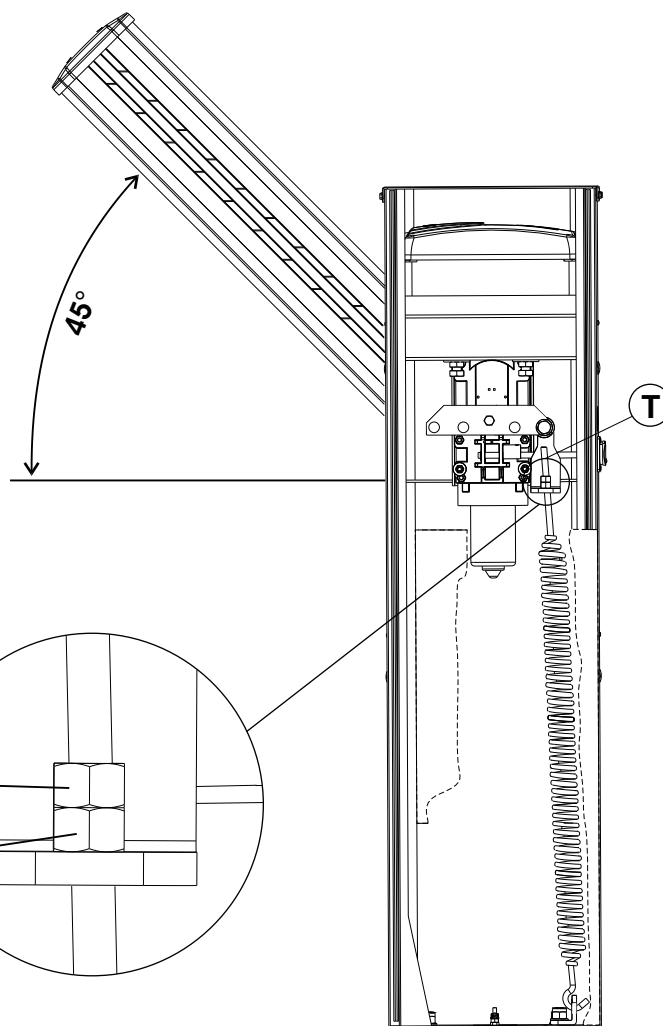

Fig. 8
- Release the beam with manual release, so that it is free to be opened and closed manually (Fig.8).
- Loosen or tighten the spring stretching nut until the spring counterbalances the weight of the 45° beam (Fig. 8). The best balancing position is obtained when the beam reaches the position shown in Fig. 8.